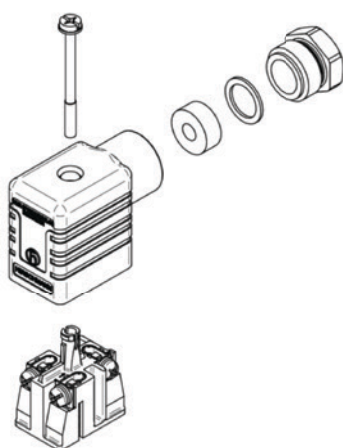

Figure 74: Valve B Form connector plug
1. Connect signal cable to valve B from connector plug - See figure 74